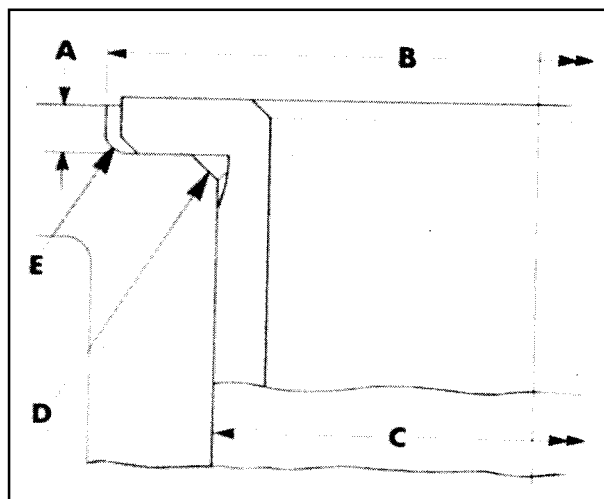

Figure 30
2. Machine the counter bore to the dimensions shown in Figure 30. The counter bore depth is critical as the sleeve must be flush with block surface when installed.